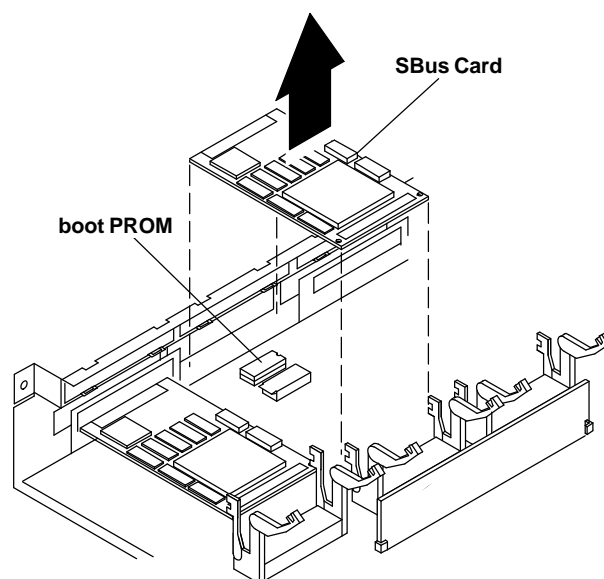

Figure 4-5. Removing an SBus card
1. Refer to Figure 4-5. If you have an SBus card covering the boot PROM, remove it and set it aside on the antistatic mat.